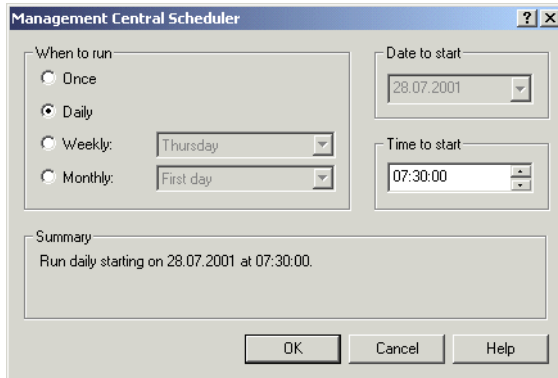

Figure 8-38 Management Central Scheduler display: Primary to As05b
12. The Management Central Scheduler window now appears as shown in Figure 8-38. Select the **Daily** radio button and change the Time to start field to **07:30**.